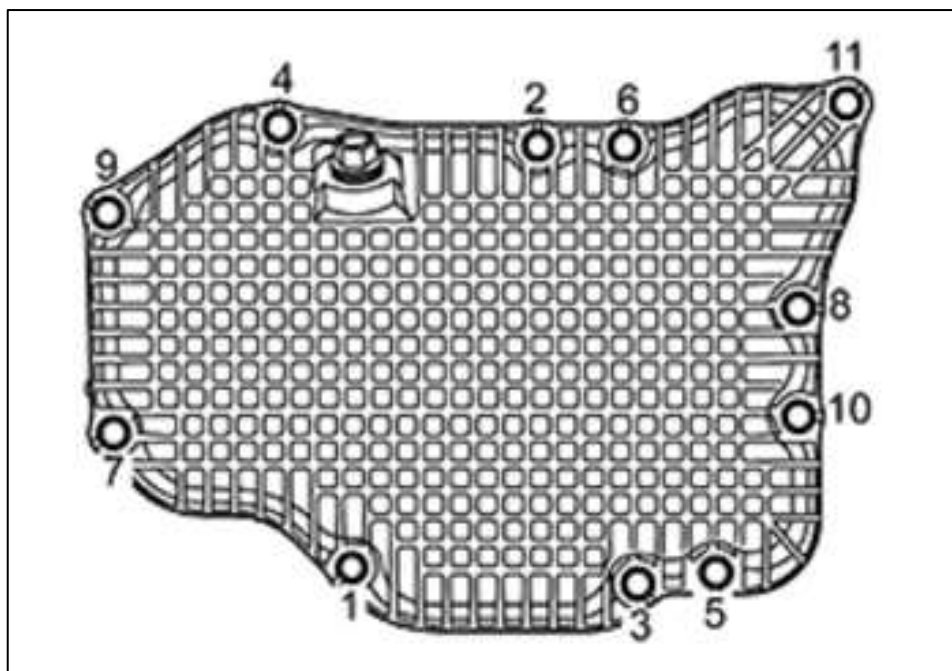

Figure 6
9. Torque the Oil Pan bolts in the order as shown below in two steps, *Figure 6:*